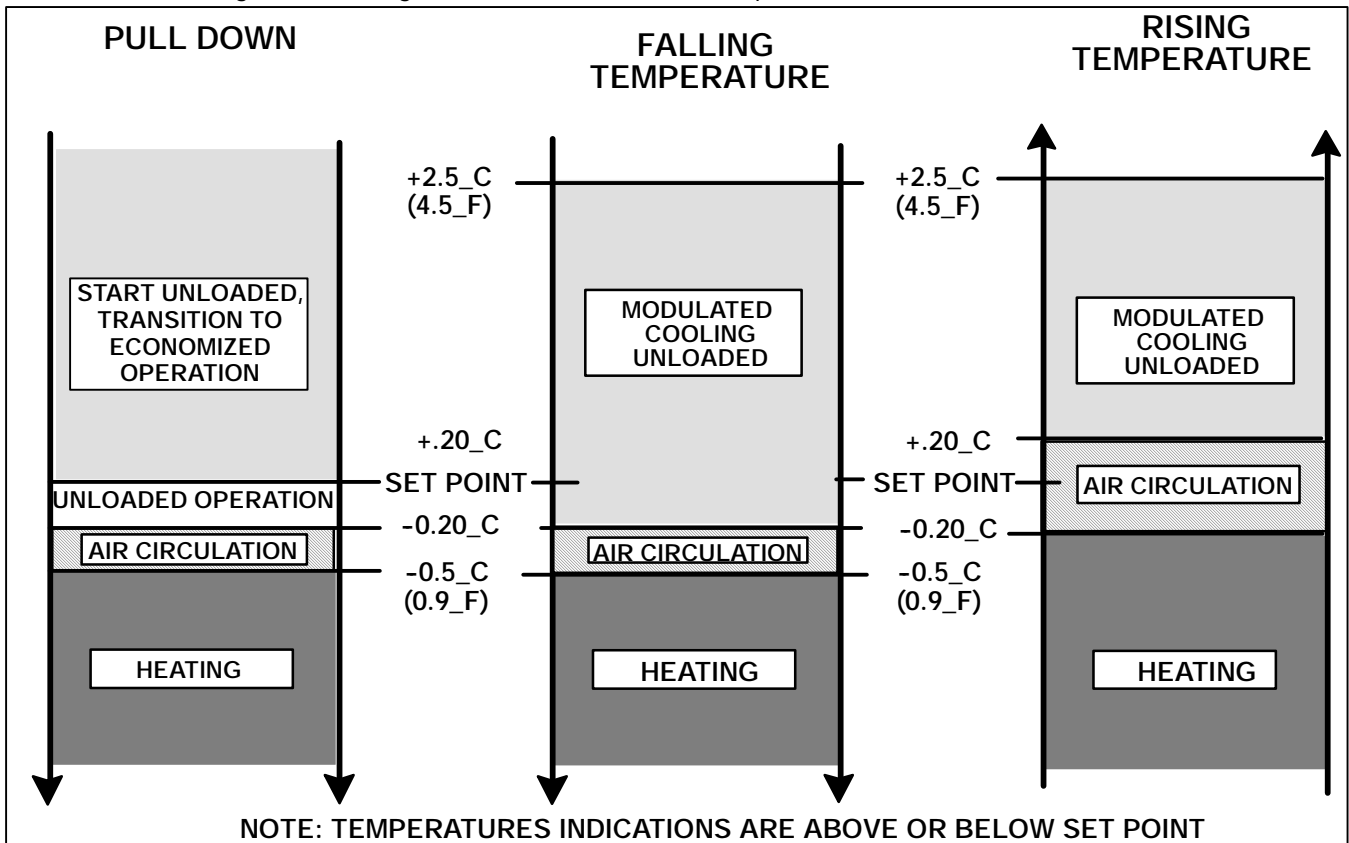
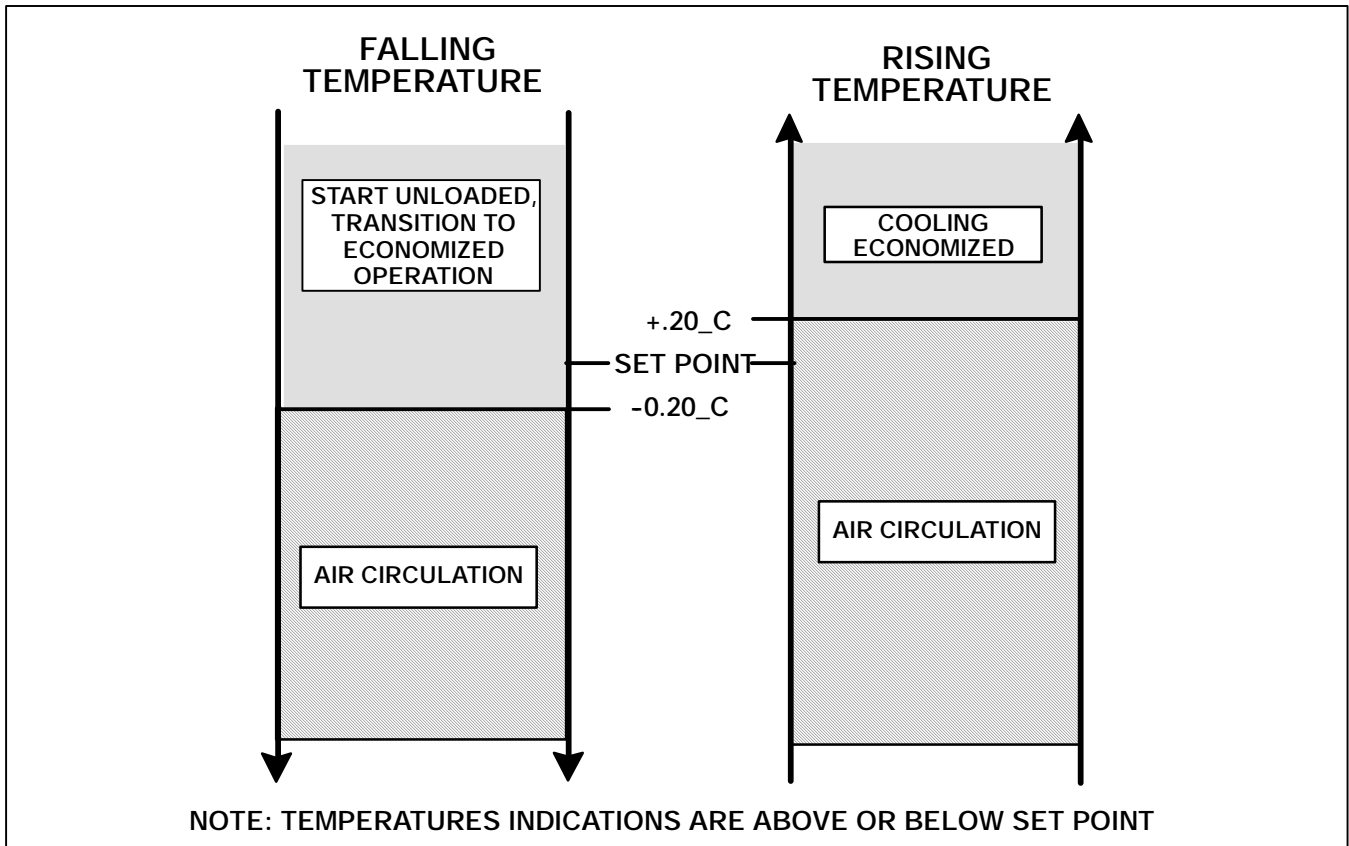
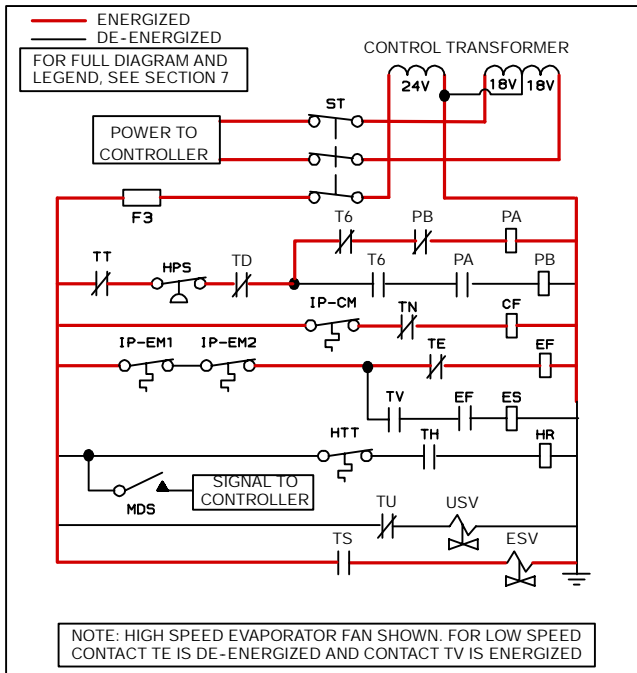
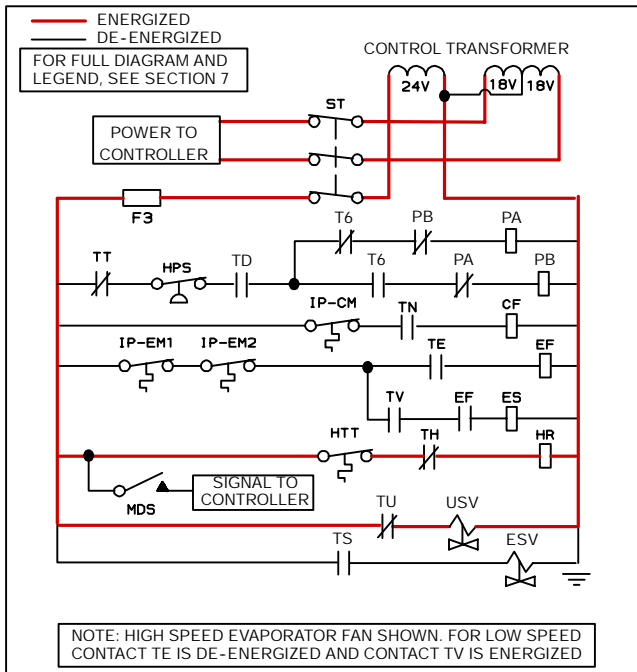

Figure 4-3 Controller Operation - Perishable Mode
Figure 4-4 Controller Operation - Frozen Mode
Figure 4-5 Perishable Mode
Figure 4-6 Perishable Mode Heating
General operation sequences for cooling, heating and defrost are provided in the following subparagraphs. Schematic representation of controller action are provided in Figure 4-3 and Figure 4-4. Refer to Section 3 for detailed descriptions of special events and timers that are incorporated by the controller in specific modes of operation.
The controller logic will check for proper compressor rotation. If the compressor is rotating in the wrong direction, the controller will energize or de-energize relay T6 as required (see Figure 4-5). Energizing relay T6 will switch operation from compressor contactor PA to compressor contactor PB. De-energizing relay T6
- With supply air temperature above set point and decreasing, the unit will be cooling with the condenser fan motor (CF), compressor motor (PA or PB), evaporator fan motors (EF) energized and the COOL light illuminated. (See Figure 4-5.) Also, if current or pressure limiting is not active, the controller will energize relay TS to open the economizer solenoid valve (ESV) and place the unit in economized operation.
- As the air temperature continues to fall, modulating cooling starts at approximately 2.5_C (4.5_F) above set point. (See Figure 4-3.) At set point, relay TS is de-energized to close the economizer solenoid valve and relay TU is energized to open the unloader solenoid valve changing from economized operation to unloaded operation. (As shown in Figure 4-5)
- a. If the air temperature decreases 0.5_C (0.9_F) below set point, the system enters the heating mode. (See Figure 4-3). The controller closes contacts TH (see Figure 4-6) to allow power flow through the heat termination thermostat (HTT) to energize the heaters (HR). The HEAT light is also illuminated. The evaporator fans continue to run to circulate air throughout the container.